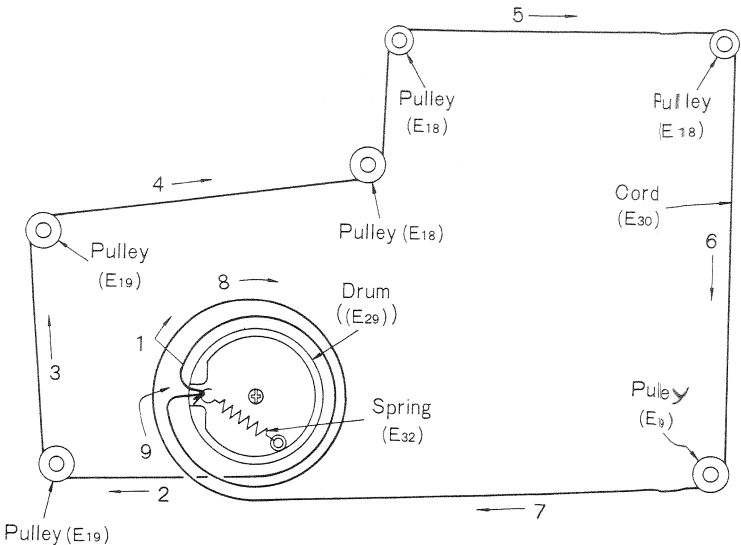

Fig. 28
- 4. Arrows (1~9) indicate correct order and direction of cord installation, as shown in fig. 28.